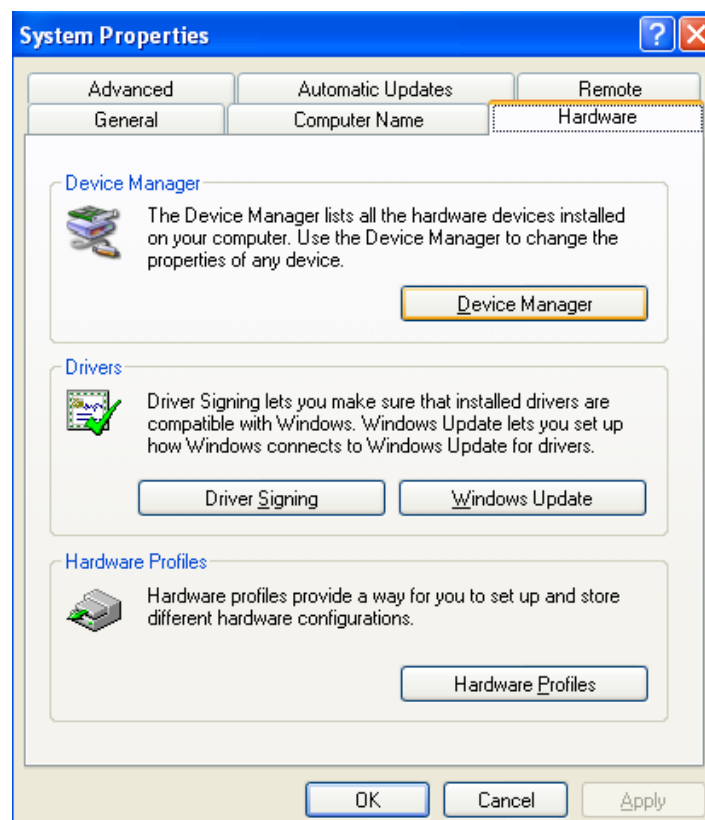

Figure 2
(2). Choose "Hardware", click "Device Manager" left key, as shown in figure 2.